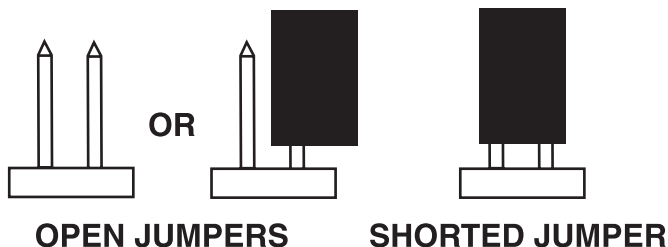

Figure 3-16. Open and Shorted Jumpers.
4. When connecting a 2mv/v simulator, jumper W1 is to be put in place shorting the two pins. See Figure 3-16.
5. When connecting a 3 mv/v Simulator: Jumper W1 must be removed or left in place with one pin uncovered. See Figure 3-16.